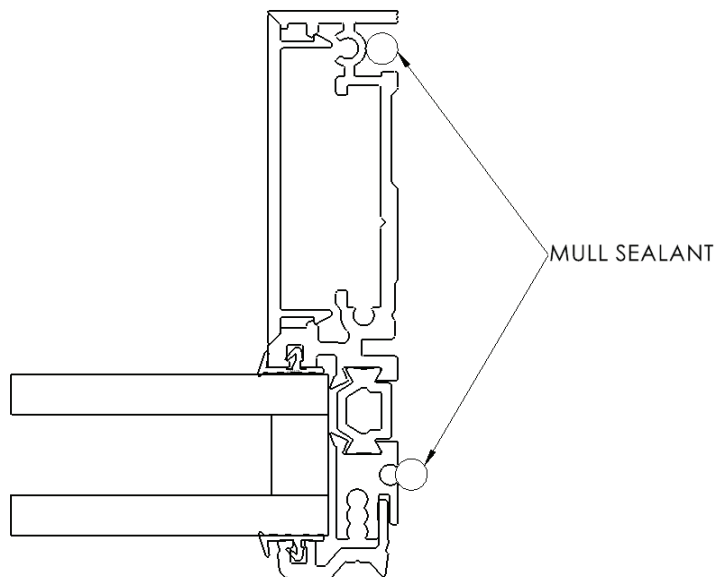

Figure 7
7. Apply a $\frac{1}{4}$ " diameter bead of Dow 795 sealant or equivalent sealant in the mull clip groove and at the sealant groove. See Figure 7.